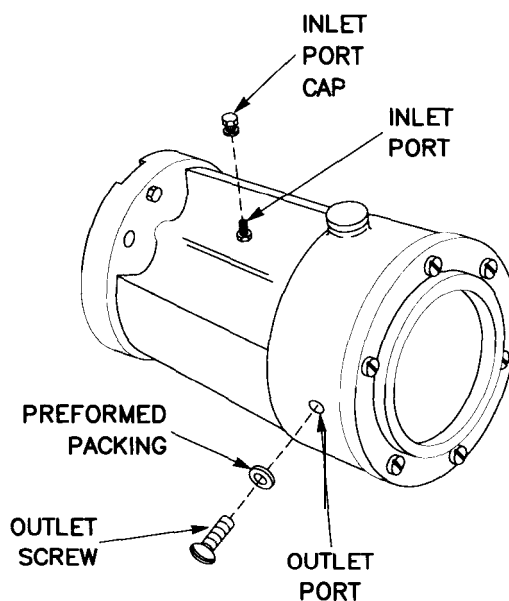

Figure 3-45 M17A1 and M17C End Assembly
(2) End Housing Assemblies (figs. 3-45 and 3-46).